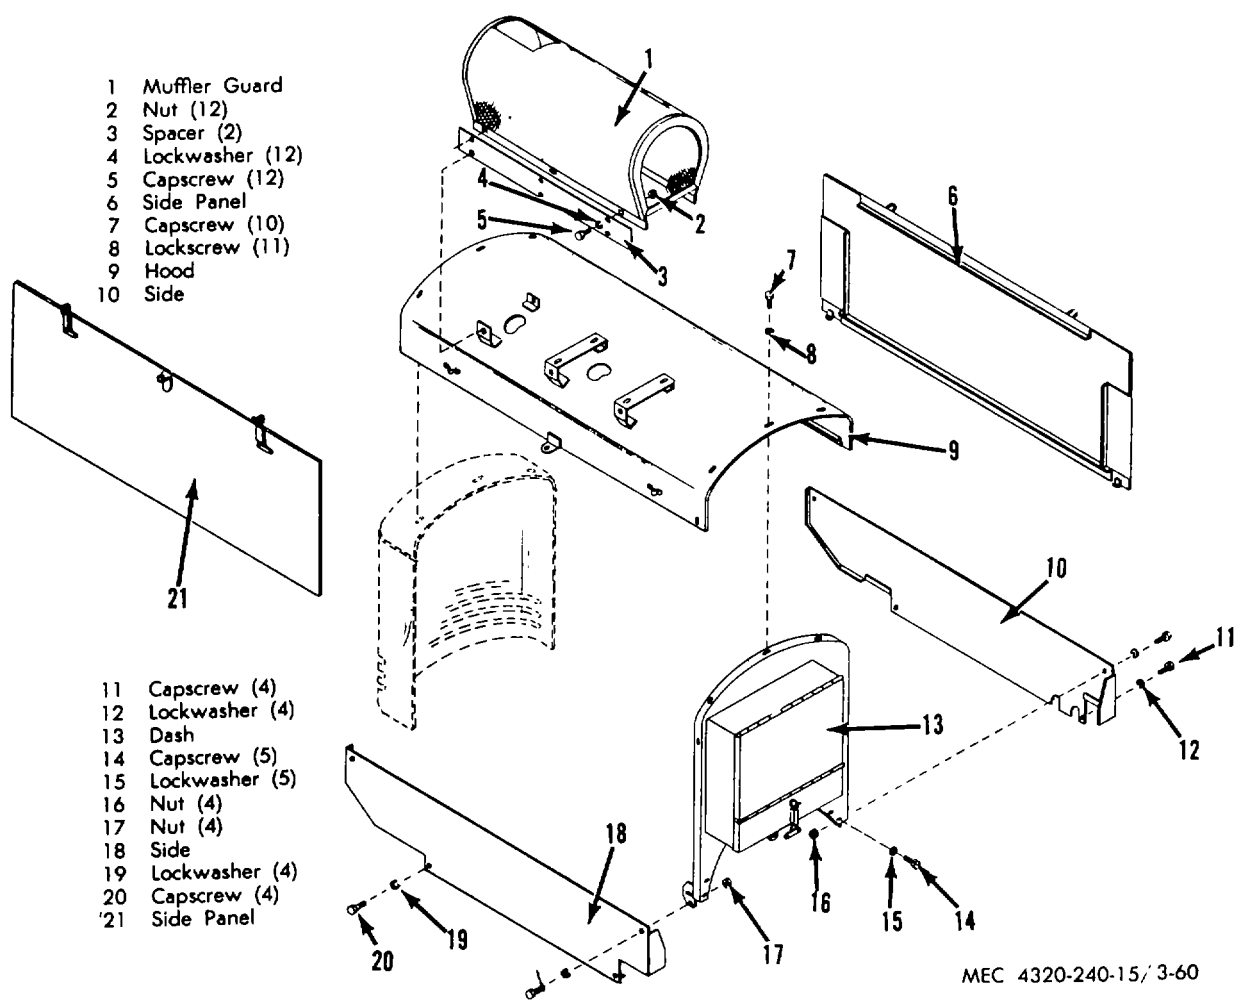

Figure 3-60. Housing, engine.
(2) Refer to paragraph 3-79d and remove muffler guard and muffler.
(3) Remove side panels. (fig. 3-60).
(4) Refer to figure 3-60 and remove capscrews (7), lockwashers (8), and hood (9).
(5) Refer to paragraph 3-50b(6) and remove fan guard.
(6) Refer to figure 3-60 and remove capscrews (11 & 20), lockwashers (12 & 19), and sides (10 & 18).
(7) Refer to chapter 3 section XII, and disconnect all controls and instruments.
(8) Refer to figure 3-60 and remove the instrument panel by removing capscrews (14) and lockwashers (15).